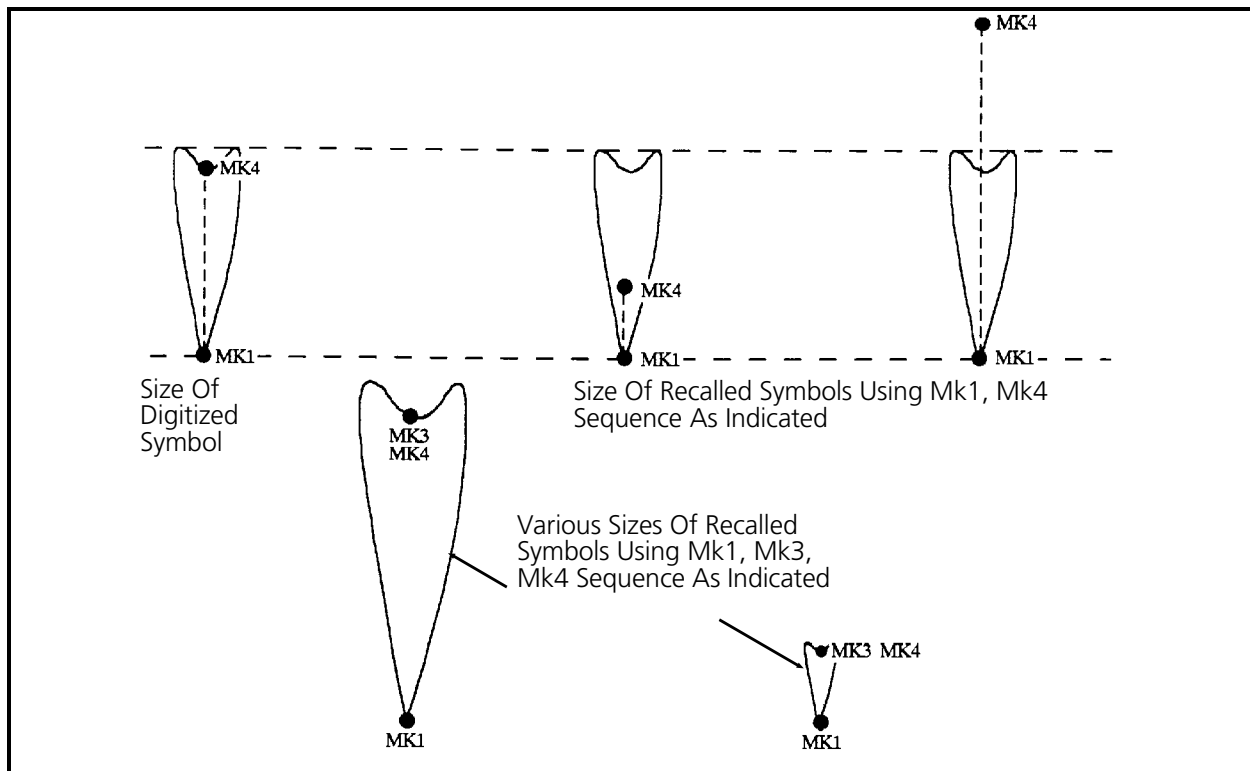

Figure 5-27
3. Now, before you enter the Mk4 for completing the sequence for positioning the symbol in the location and orientation, enter a Mk3 to indicate the size you want the symbol. The distance between the Mk1 and the Mk3, in relation to the originally digitized Mk1, Mk4 combination, will determine the size for the current symbol insertion. (See the illustrating examples in Figure 5-27.)